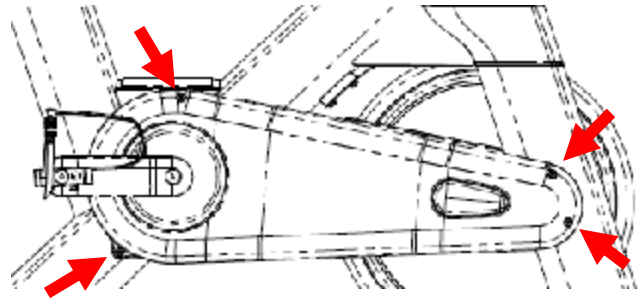

Figure 1
1. Using a 3mm Allen Wrench, remove the four screws supporting the plastic chain guard shroud. (Figures 1)